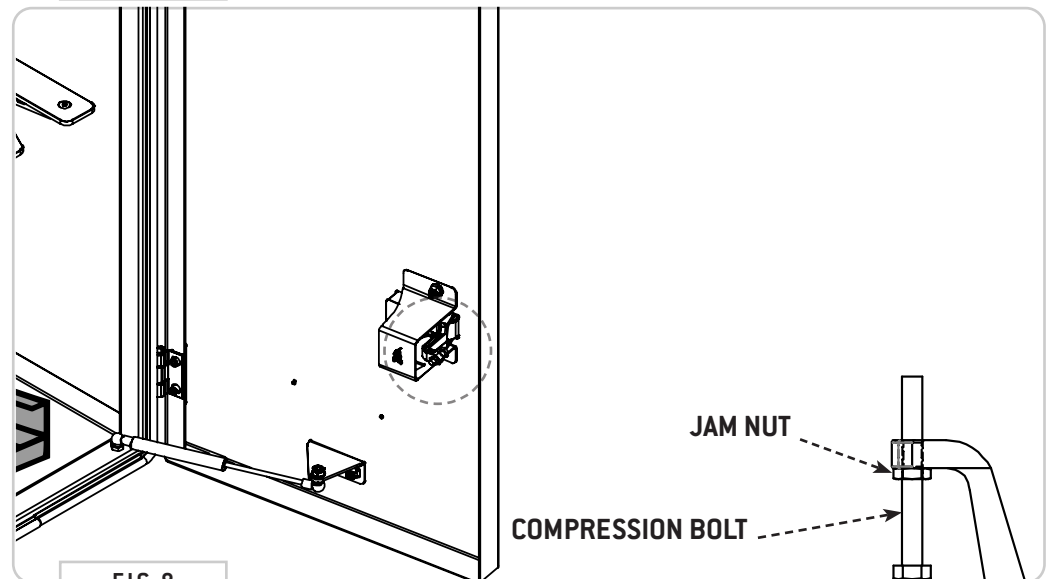

FIG 8
3.2 Using a **10MM Wrench**, loosen the **Jam Nut (FIG 8)** to adjust the **Compression Bolt** and retighten the nut when adjustment is complete.